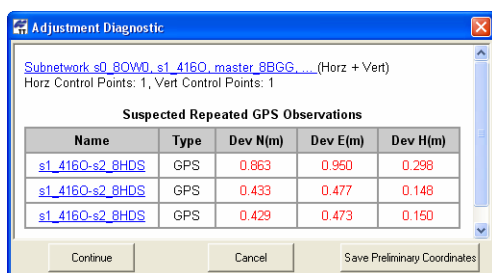

Figure 6-16. Messages After Analysis of the Repeated GPS Observation
- A failed test is where the difference is more than the values set in the **Job Configuration** dialog box. The network adjustment process will be interrupted and the **Adjustment Diagnostic** dialog box will display (Figure 6-16).